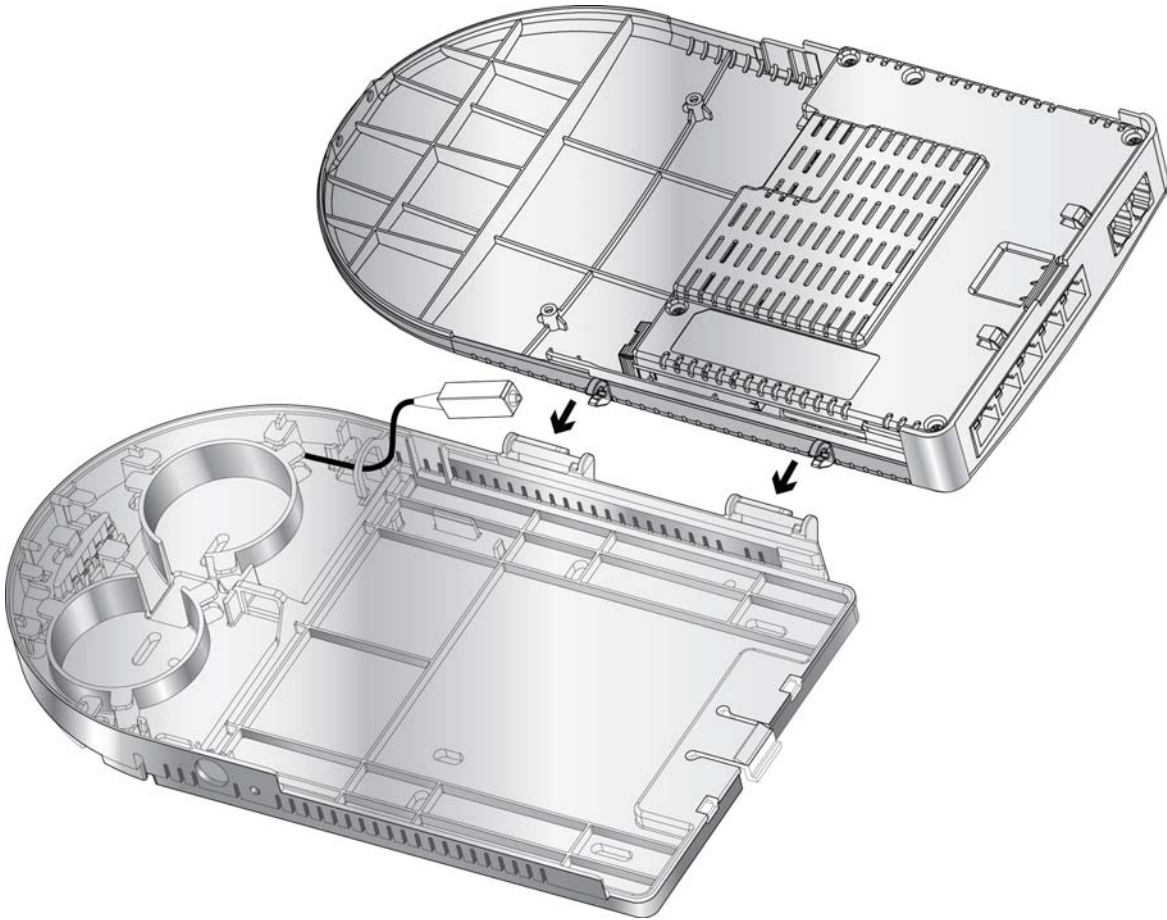

Figure 7: Location of the pivot pins on the mounting base.
5. Snap the hinges on the electronics unit onto the pivot pins on the mounting base. (Figure 7)